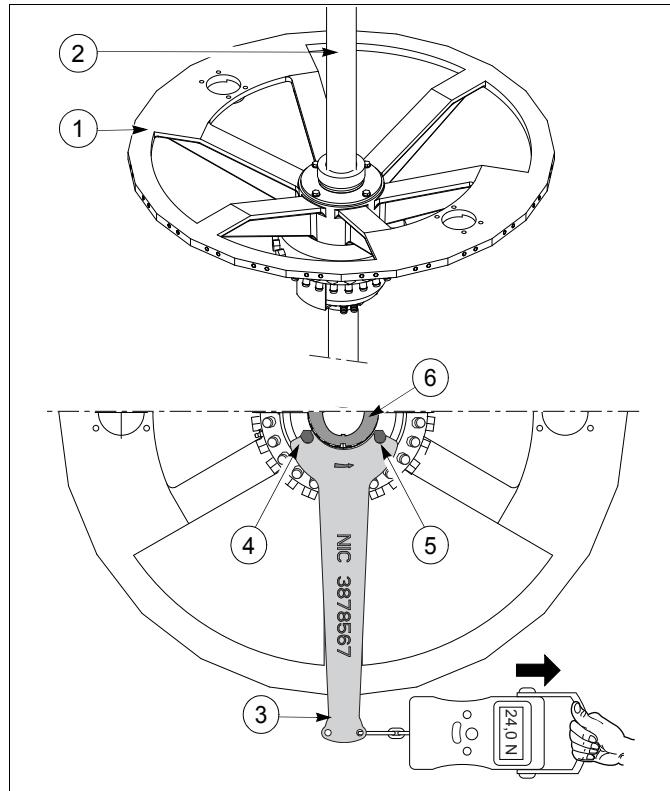

fig. 44 Check the force of the unit wheel
1. Place key 3 on bolts 4 and 5.
2. Place a measuring tool as shown in fig. 44.
See fig. 44.